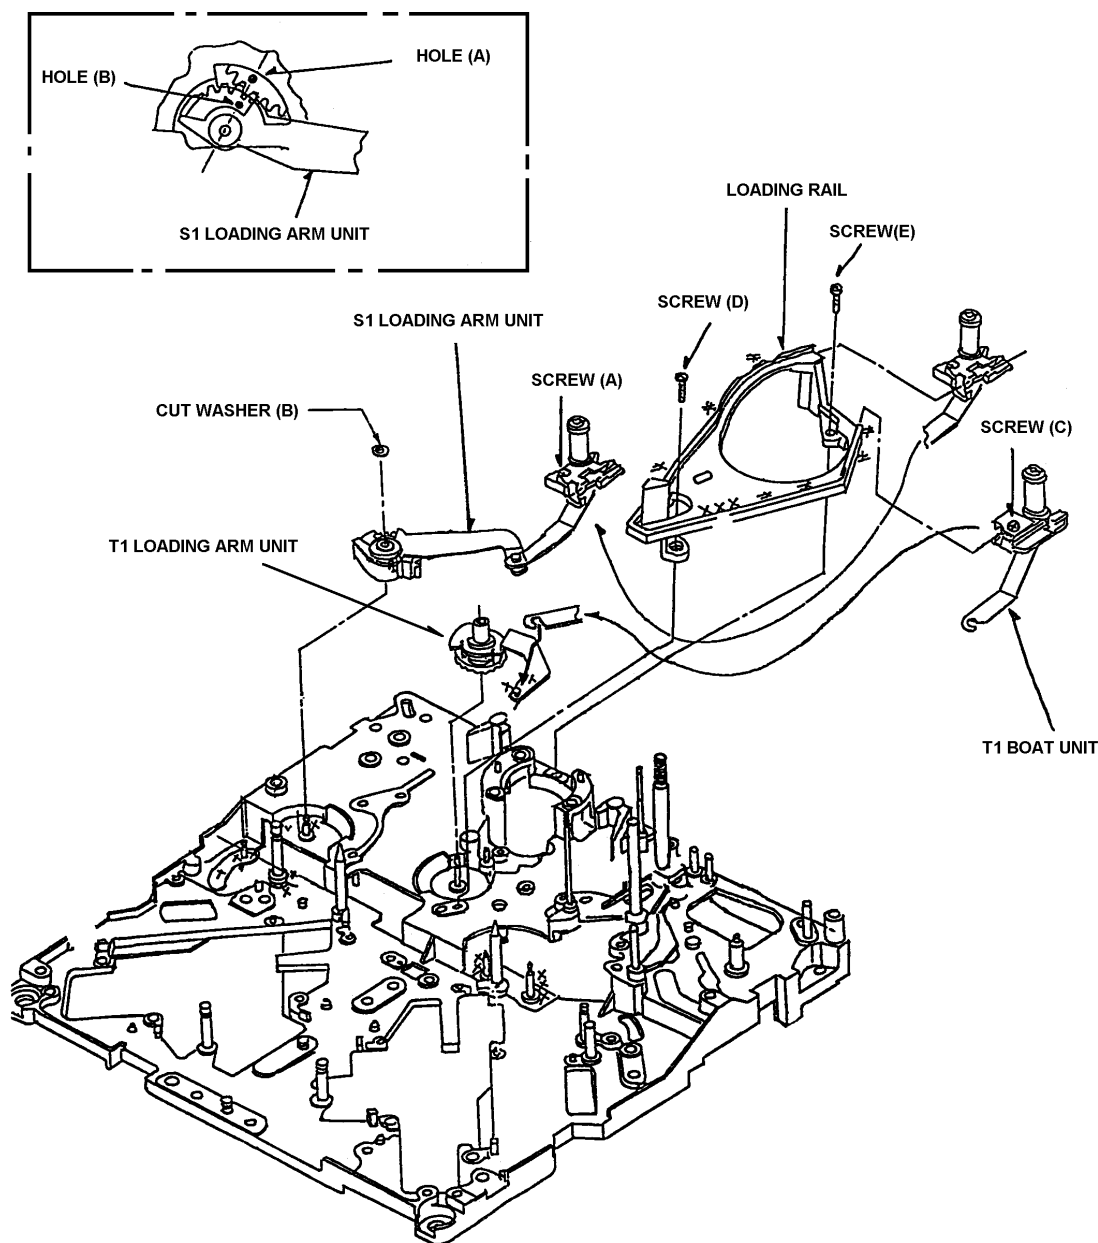

Figure 5-16
1. Remove the S5 Post Base Unit. (Refer to item 5-14)
2. Remove the Tension Arm Unit. (Refer to item 5-15).
3. Unscrew the screw (A) and remove the S1 Post from Loading Rail as shown in Figure 5-16.
Remove the Cut Washer (B) and remove the S1 Loading Arm Unit as shown in Figure 5-16.
Install and adjust so that the Hole (A) is to be parallel with Hole (B) as shown in Figure 5-16.
1. Unscrew the screw (C) and remove the T1 Post from Loading Rail as shown in Figure 5-16 on the above page.
2. Hang off the T1 Boat Unit from T1 Loading Arm Unit as shown in Figure 5-16.
1. Remove the cylinder Unit. (Refer to item 1-1)
2. Move the T1 Post to loading direction by manual ejecting method until the screw (D) can be removal position as shown in Figure 5-16.
3. Unscrew the 2 screws (A) and (C), then remove the S1 and T1 Post from Loading Rail as shown in Figure 5-16.
4. Unscrew the 2 screws (D) and (E), then remove the Loading Rail as shown in Figure 5-16.
5. Remove the T1 Loading Arm Unit as shown in Figure 5-16.
1. When install the T1 Loading Arm Unit, then the hole (A) should match with the hole (B) as shown in Figure 5-16.